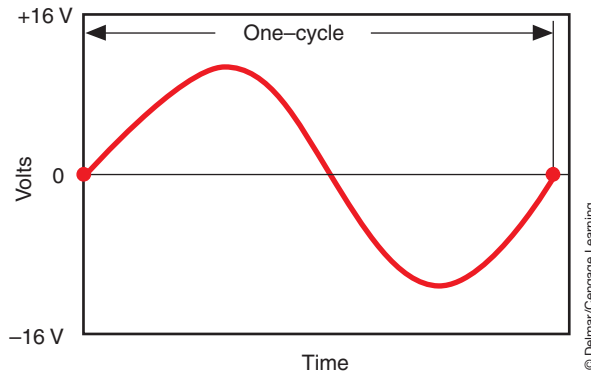

FIGURE 2-16 Alternating current does not remain constant.
Alternating current (AC) is produced anytime a conductor moves through a magnetic field. In an alternating current circuit, voltage and current do not remain constant. Alternating current changes directions from positive to negative. The voltage in an AC circuit starts at zero and rises to a positive value. Then it falls back to zero and goes to a negative value. Finally it returns to zero (Figure 2-16). The AC voltage, shown in Figure 2-16, is called a sine wave. Figure 2-16 shows one **cycle**.